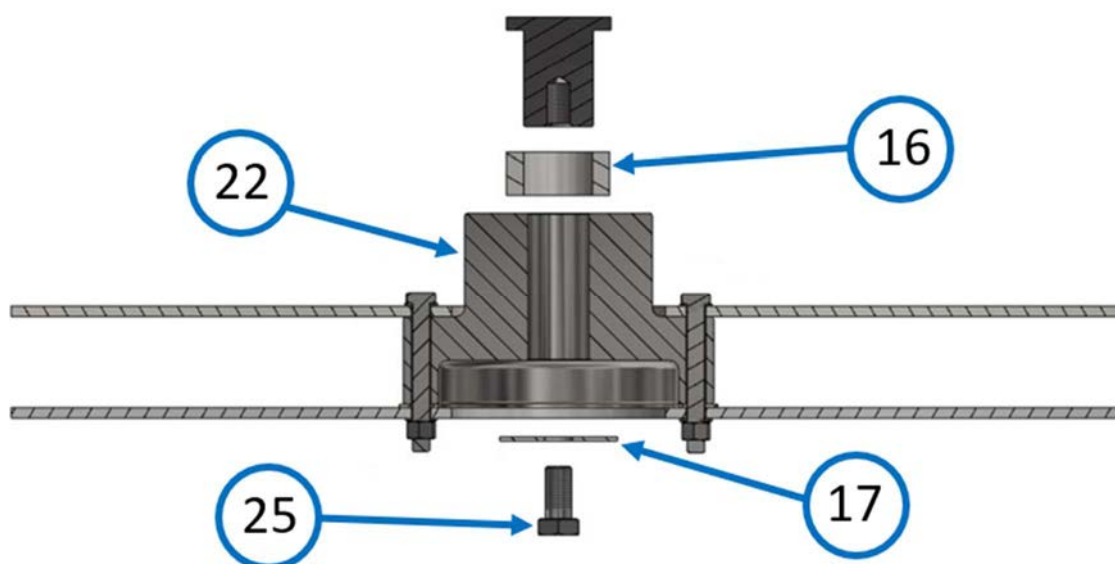
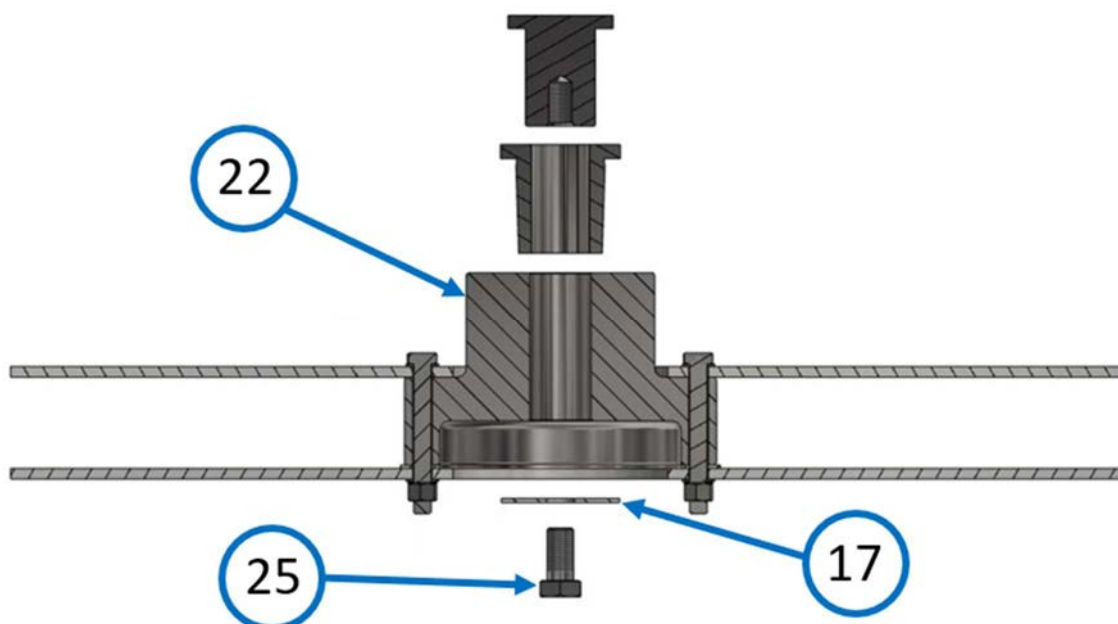

Figure 2.15: installation of hub with internal hub boss and cylindrical bore
Figure 2.16: installation of hub with internal hub boss and bushing
COFIMCO can supply two different types of hub with internal hub boss: with cylindrical bore (see figure 2.15) or with cylindrical bore for bush installation (see figure 2.16).
- 1) **Hub with internal hub boss with cylindrical bore:** anchored directly to the shaft that transmits the motion; for the procedure please refer to figure 2.15.
Put the washer [17] on the flange and tighten the bolt [25] to the shaft, as shown in figure 2.15.
- 2) **Hub with internal hub boss and bushing**: to fasten it refers to figure 2.16.